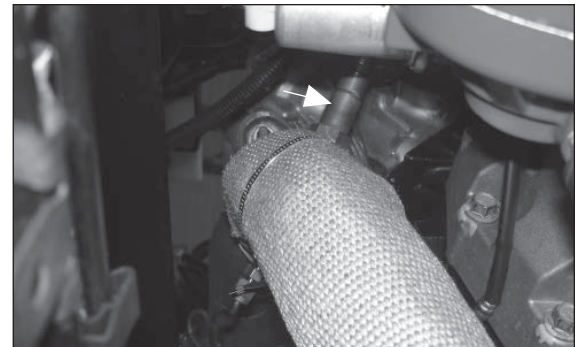

Figure 83
1. Locate the Ford O2 sensor located on the inside of the vertical exhaust pipe, located on the PTO side (approximately 3-4 inches above the top of the PTO) (Fig. 83).